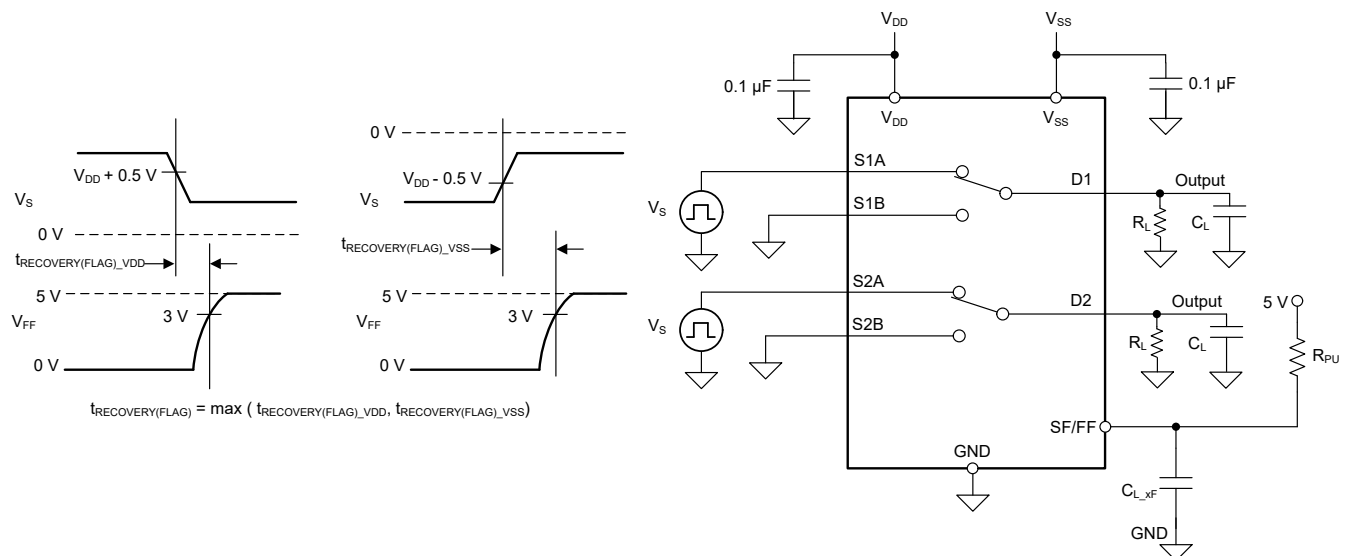

Figure 7-12. Fault Flag Recovery Time Measurement Setup
Fault flag recovery time ($t_{\text{RECOVERY(FLAG)}}$) measures the delay between the source voltage falling from overvoltage condition to below fault supply voltage (V_{DD} or V_{SS}) plus 0.5 V and the general fault flag (FF) pin to rise above 3 V with 5 V external pull-up. Figure 7-12 shows the setup used to measure $t_{\text{RECOVERY(FLAG)}}$.